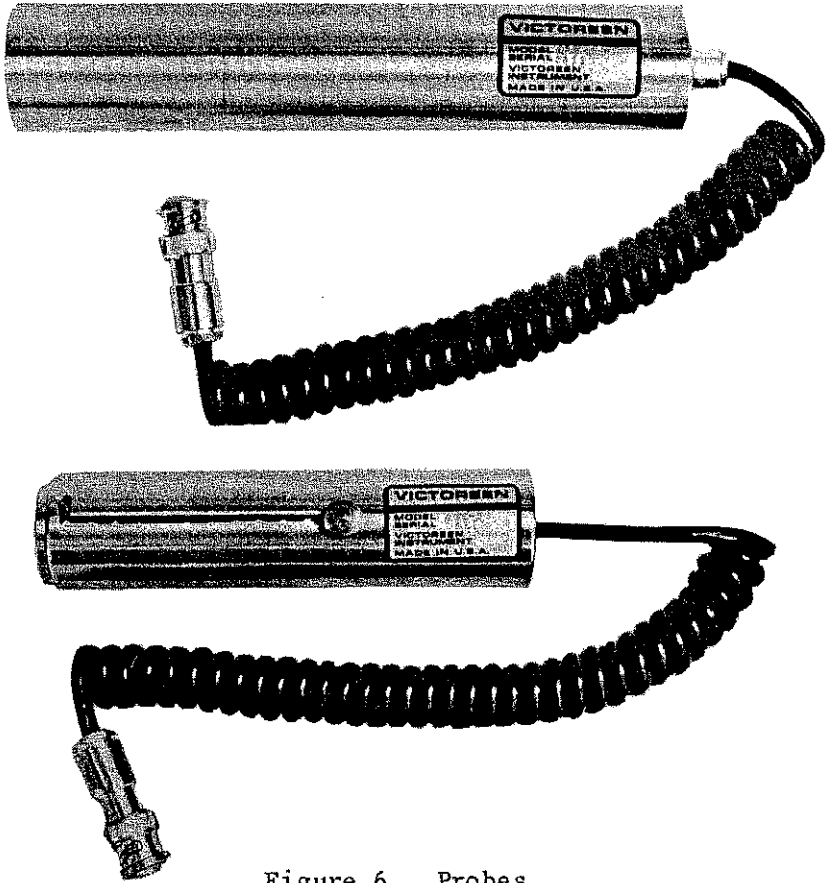

Figure 6. Probes
5.1 Probes - The standard probe for the 491 instrument utilizes a Lionel 112/6833 tube. The assembly is designated as a VICTOREEN Model 491-30 Probe as shown in Figure 6.